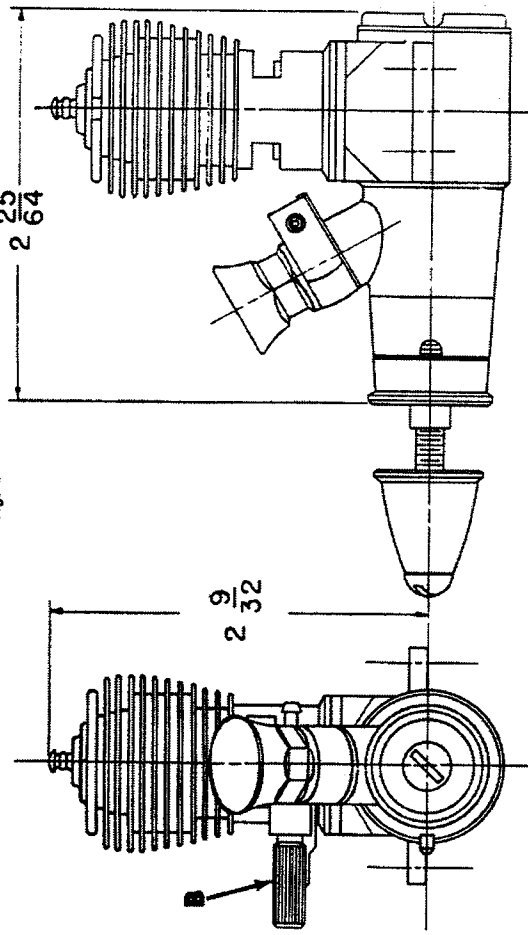

Fig. 3
4. Procure a 1 1/2 volt dry cell battery, #6 or equivalent, and connect it with 2 flexible insulated wires to the glow plug clip as shown in the diagram A and B, Fig. 3. Do not use a stronger battery. If you do, the plug will burn out. The connections should be soldered to insure good contact, and taped to prevent bare ends of wire from getting together and shorting the battery. Be sure the battery is a good one. Your dealer sells batteries and glow plug clips. The Thimble Drome plastic mounted glow plug clip with wires already attached is recommended, and requires no soldering. (Cat. #755—35c)
the edges of the blades. Fit a drill or shaft through the hole and rest the shaft on razor blades set in wooden blocks as shown in C-Fig. 3. Sand the heavy blade until the propeller will balance in a horizontal position. Care must be taken to do the sanding without spoiling the airfoil characteristics of the propeller blades. Caution: use only nylon or wooden props. Styrene props are extremely dangerous on these engines.
5. Connect the battery by snapping she clip on the glow head B-Fig. 3.